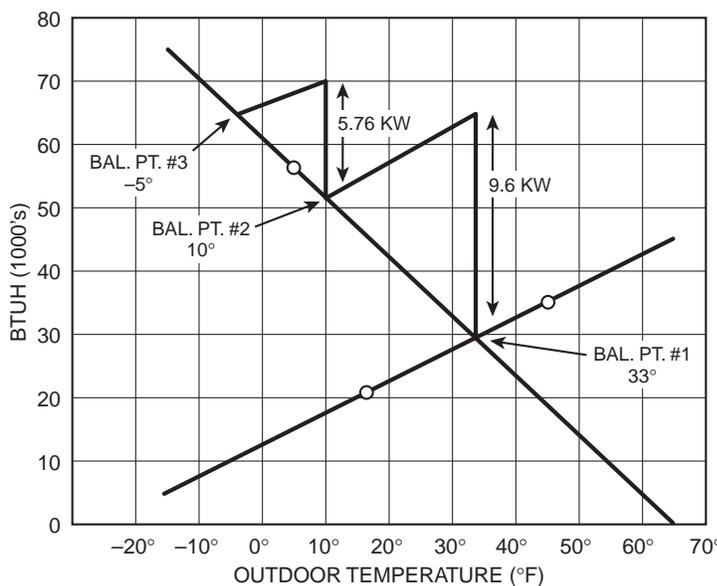

Figure 2
Reference Figure 2. A unit-capacity-to-structure-heat-loss "balance point" occurs each time the capacity of the Heat Pump, and any applied supplemental heat, matches the heat loss of the structure at a specific combination of the indoor-outdoor temperatures. The first balance point is that indoor-outdoor temperature combination where the capacity of the Heat Pump alone becomes insufficient to maintain the desired indoor design temperature.
The next balance point occurs at the indoor-outdoor temperature combination where the Heat Pump plus the first stage of supplemental heat is insufficient to maintain the design indoor temperature. The second stage of supplemental heat must be applied at this point or corresponding temperature. All other balance points are treated in the same manner. This is illustrated in Figure 2 and in the following paragraphs.
The calculated heat gain of the example house in Figure 2 is 35000 Btuh at 95° outdoors and 75° indoors. A three ton heat pump system has been selected.
A line is drawn in Figure 2 from 55000 Btuh at 5° outdoors to 0° Btuh at 65° outdoors (Internal heat sources make up the difference between 65° and 70°).
2. Enough heat to make up the difference between the design heat loss and the capacity of the heat pump at the design outdoor temperature, (55000-15000) (from Figure 2) equals 40000 Btuh in this case.
Figure 2 indicates a first balance point (heat pump only) of 33°.
The vertical line at 33° on Figure 2 represents the 9.6 kw first stage of the heater. (32,765 Btuh) added to the capacity of the heat pump. The sloping line (parallel to the heat pump capacity line) to the 10° balance point represents the capacity of the heat pump plus the 5.76 kw.
Balance point plotting for any Heat Pump may easily be accomplished by preparing a graphic chart similar to figure 2, inserting the heating curve of the unit (taken from heating performance curves or tables) and proceeding as outlined above.